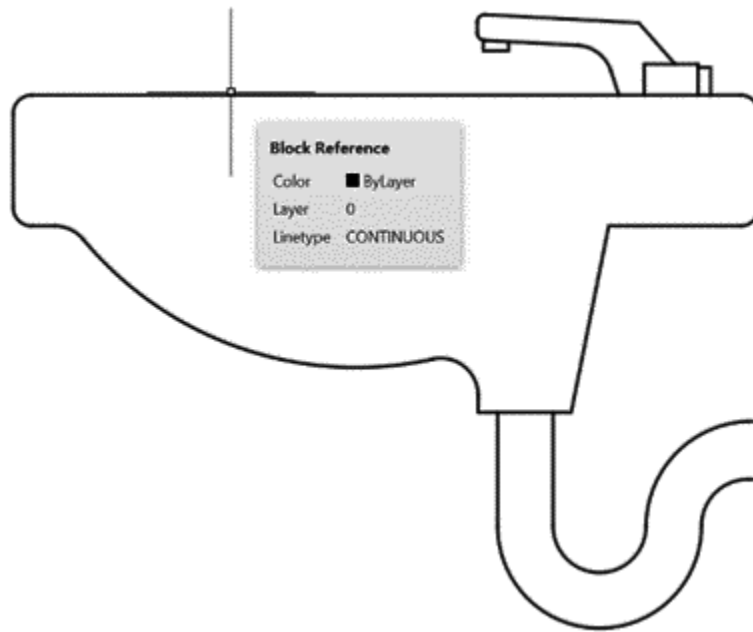

Figure 12.14: The finished `Washbasin_SIDE` block
17. Hover over the new block to check that the tooltip displays **Block Reference**, as shown in *Figure 12.14*. If it does, you have created your `Washbasin_SIDE` regular block.